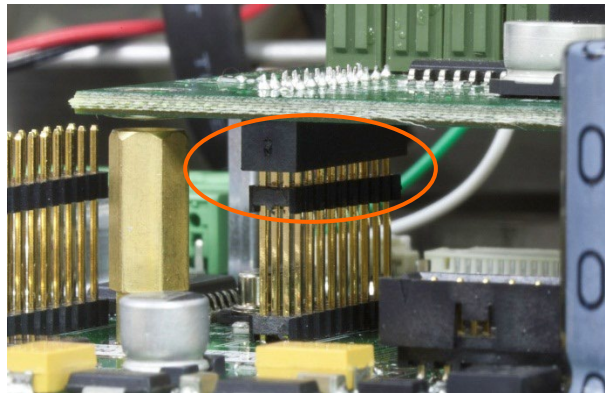

Figure 5-22: Aligning Option Board Pins
3. Gently press the option board down so that all the pins on the main board connector slide into the socket on the bottom of the option board. When properly installed, each pin will insert into a corresponding hole in the connector. Refer to Figure 5-22